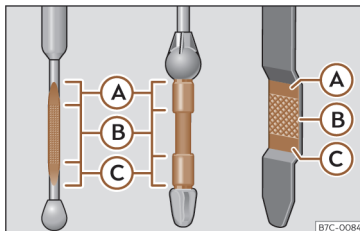

Fig. 197 Engine oil dipstick.
- Then pull it out once more and check the oil level» **Fig. 197**. Top up with engine oil if necessary.
- When the oil level reaches at least zone >>> **Fig. 197 (B)**, unscrew the engine oil filler cap carefully >>> **ⓘ**.
If the oil level is above area >>> **Fig. 197 (A)**, do not start the engine. This could result in damage to the engine and catalytic converter. Contact a specialised workshop.
The oil level must never be above zone >>> **Fig. 197 (A)**. Otherwise oil can be drawn in through the crankcase breather and leak into the atmosphere via the exhaust system.